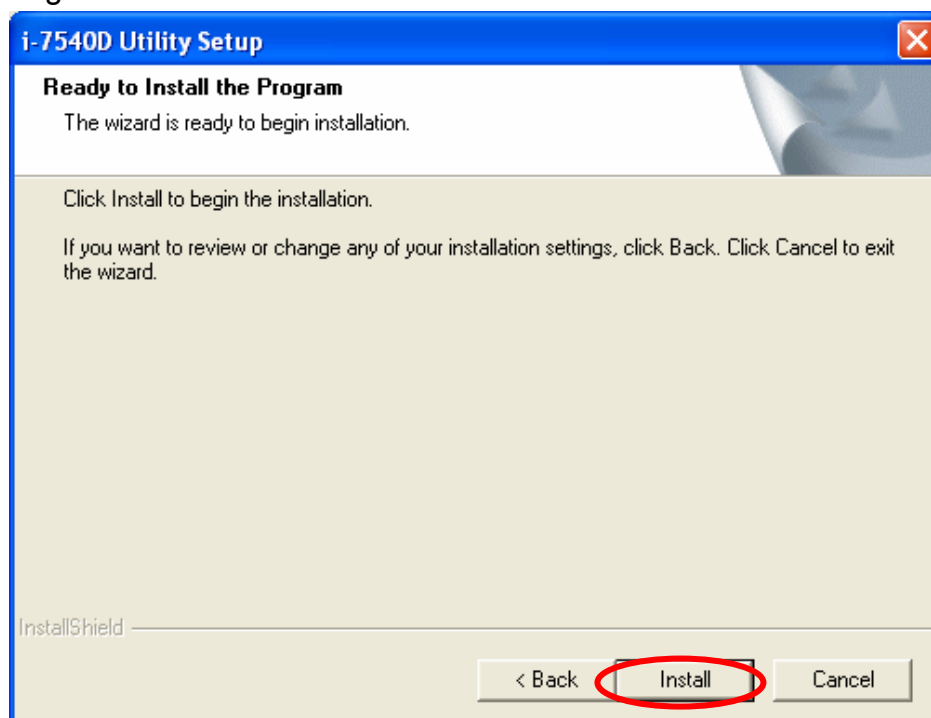

Figure 3-4: “Ready to Install the Program” dialog
Step 5: Click “Next” button and a “Ready to Install the Program” window will pop up to prompt user that the wizard is ready to begin the installation See figure 3-4.